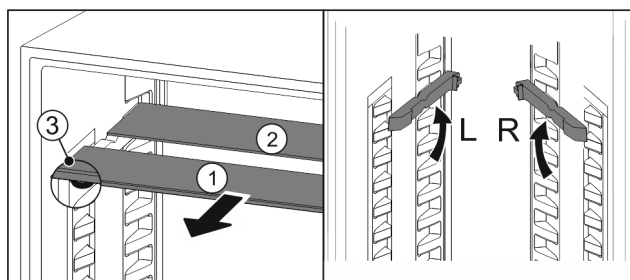

Fig. 101
- ▶ Pull the glass panels out Fig. 101 (1) from the front, one at a time.
- ▶ The glass panel Fig. 101 (1) and trim strip are at the front.
- ▶ The stops Fig. 101 (3) point down.